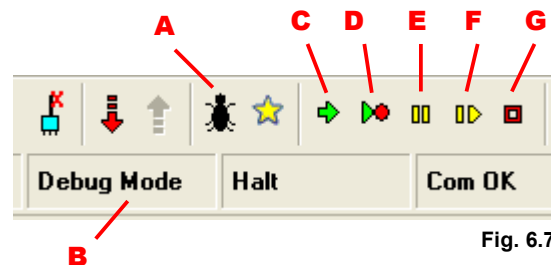

Fig. 6.7
During the development of the Program, if the Controller is connected, click on the "Debug" button (Fig.6.7-A) to activate the "Debug" modality.
In the Status bar the message "Debug Mode" (Fig.6.7-B) will be visualized and in the Tool bar will be activated the commands to execute the following debug operations:
- "Run" (Fig.6.7-C) – Executes the Program continuously.
- "Run To Break" (Fig.6.7-D) – Executes the Program up to the Break point .
- "Pause" (Fig.6.7-E) – Interrupts the execution of the Program ("Run" condition) / executes the Program step by step ("Stop" condition)
- "Animate" (Fig.6.7-F) – Simulates the evolution of the Program flow executing it step by step.
- "Stop" (Fig.6.7-G) – Blocks the Program and reset it to the first Function Block.